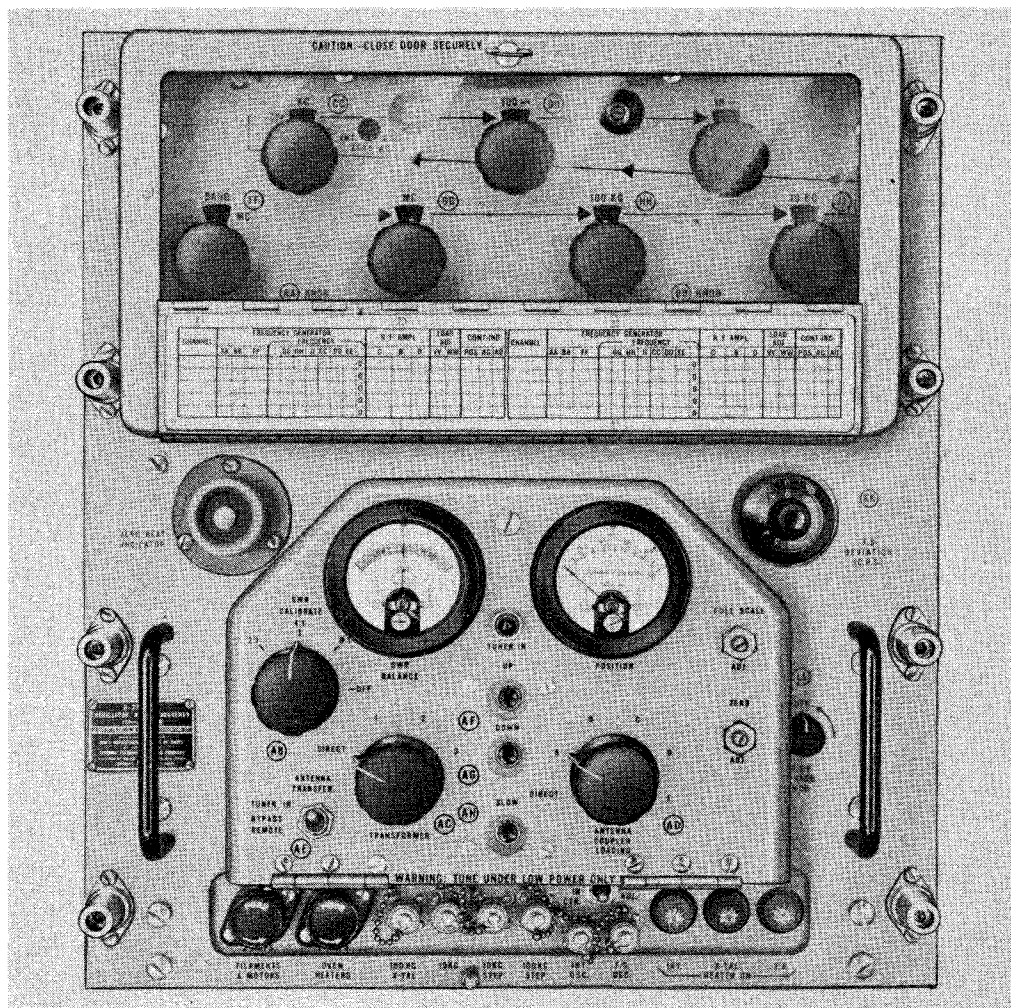

Figure 4-4. Radio Frequency Oscillator O-275/SRT (Radio Frequency Oscillator, RFO), Front Panel Controls and Indicators
| Knob setting of frequencies. | Radio Frequency Oscillator O-275/SRT (figure 4-4) |
| Manual tuning of the antenna tuning equipment. | Control-Indicator C-1352/SRT (figure 4-4) |
(9) SPACE-OPER.-MARK CONTROL (V).—During normal keying operation, the SPACE-OPER.-MARK control (V) is in the OPER. position, which allows regular keying signals from hand- or machine-key equipment to energize the keying circuit of the LLRM. Placing this control in either SPACE or MARK makes it possible to test the action of the keying circuit without causing r-f output. This testing can be performed regardless of the position of SERVICE SELECTOR (U).
(10) SIDETONE CONTROL (W).—The SIDETONE control (W) is used to regulate the volume of the signal from the sidetone amplifier. It is adjusted only when a sidetone signal is being used for monitoring.
(11) LOCAL-REM SWITCH (X).—The LOCAL-REM switch (X) is set depending on the location of the place of operation. For operation from the transmitter bay location, this switch must be in the LOCAL position. For operation from a remote radiophone unit, this switch must be in the REM position.
(12) CARBON-DYN SWITCH (Y).—For local phone operation only, the CARBON-DYN switch (Y) is set according to the type of microphone being used. As the level of signal from a dynamic microphone is less than from a carbon microphone, the CARBON-DYN switch (Y) adjusts the amplification in the audio chain to compensate for the different input levels.
(13) INDICATOR LIGHT.—There is one indicator light designated 250 V.P.S. which, when lit, denotes the energizing of the +250-volt regulated power supply, which is located in the LLRM. A front panel jack is also provided for measuring this voltage.
(14) FUSES.—Two fuses are provided, one for protection of overload of the +250-volt regulated supply, and the other to protect the supply that provides filament voltages for the tubes in the LLRM.
(15) TIME CONST. ADJ. CONTROL.—The TIME CONST. ADJ. control is set according to the operator's keying rate in hand-key transmission. The setting of this control is not an operational function but rather a maintenance control. Because of restrictions of front panel mounting space, this control is located on the preamplifier subchassis. To gain access to this control, the LLRM chassis must be pulled out from the cabinet a sufficient amount to reach the preamplifier subchassis. This subchassis is mounted on the top left front of the main LLRM chassis.
c. RADIO FREQUENCY OSCILLATOR O-275/SRT.—The radio frequency oscillator, RFO (figures 4-4 and 4-5), contains all controls for the manual selection of a frequency and other controls for the adjustment of operation of certain circuits within the RFO. The Control-Indicator C-1352/SRT, included as a com-